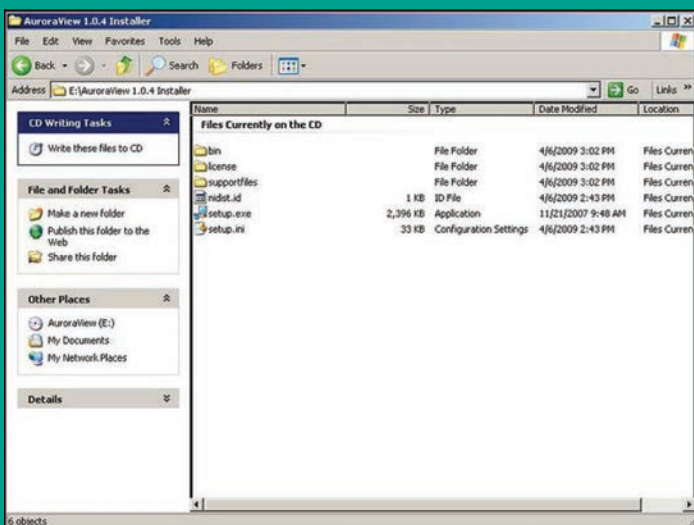

Figure 47: AuroraView installer
3. Browse to the file named “*setup.exe*” in the root directory of the CD (see *Figure 47* below). Double-click the file to start the installation.